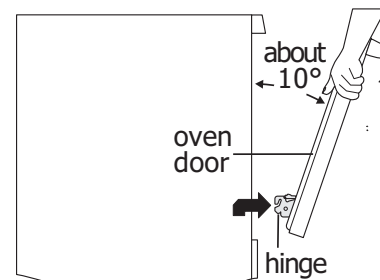

Figure 10: Holding door for removal/replacement
3. Firmly grasp both sides of oven door along the sides. Do not use the oven door handle (See Figure 10).
4. Close the door to approximately 10 degrees from the door frame (See Figure 10).
5. Lift the oven door hinge arms over the roller pins located on each side of the oven frame (See Figure 10).
1. Firmly grasp both sides of oven door along the door sides. Do not use the door handle (Figure 10).
2. Holding the oven door at the same angle as the removal position, seat the hook of the hinge arm over the roller pins located on each side of the oven door frame (See Figure 10 and Figure 11). The hooks of the hinge arms must be fully seated onto the roller pins.